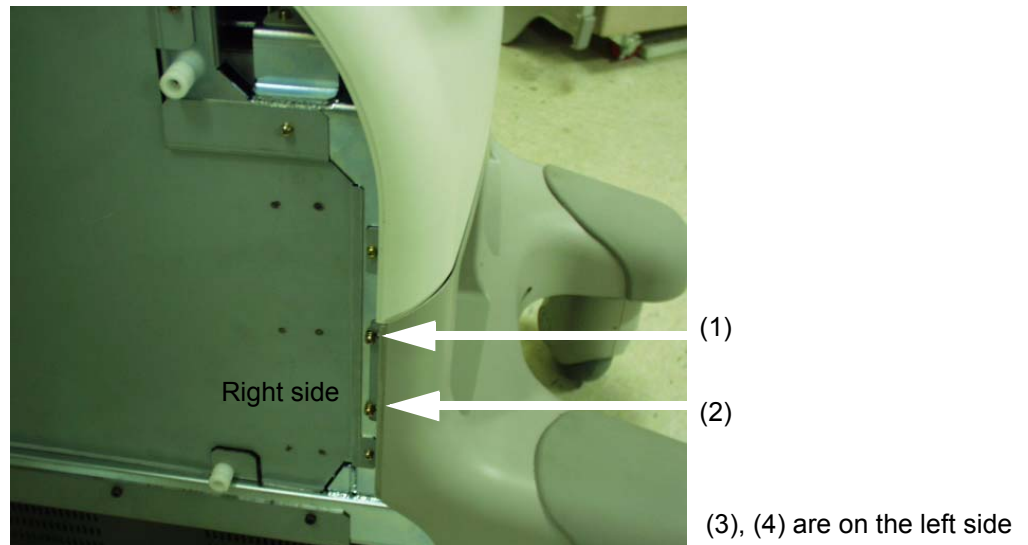

Figure 8-82 Unscrew 2 screws on the Right side
- 3.) Unscrew four screws (1-4). Refer to Figure 8-82 on page 8-37 .